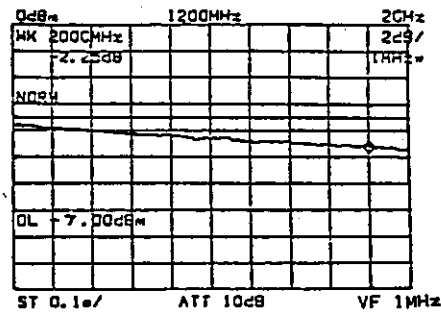

Figure 4-37 Reading the Characteristic of Waveform from the Marker Display
- ⑧ When the marker is displayed, the relative value between the marker point on the measured waveform and display line can be read directly in the marker level (Figure 4-37). To clear the NORMALIZE mode, press the ☐ SHIFT and ☐ NORM keys again.